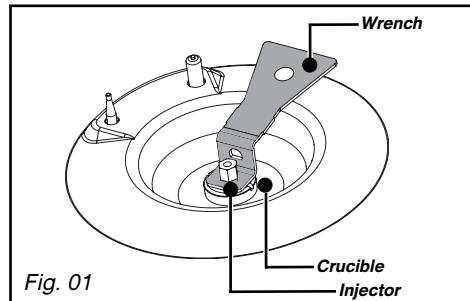

Fig. 01
– **Connection with a flexible, wavy metal hose** (stainless steel) **with screw-on mechanical connectors** compliant with the NF D 36-125 standard) whose service life is unlimited (Fig. 01).
- Using the wrench provided, unscrew the injectors located under each crucible and remove them (*Fig. 01*).